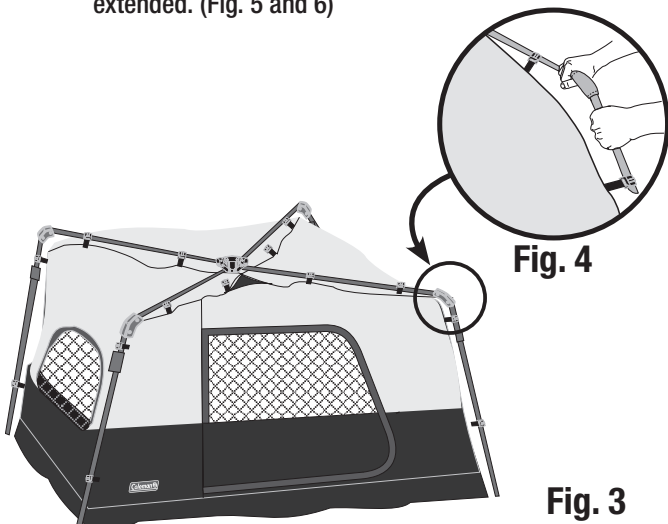

Fig. 3
- Unfold the arm joints located at each of the tent corners. (Fig. 3 and 4)